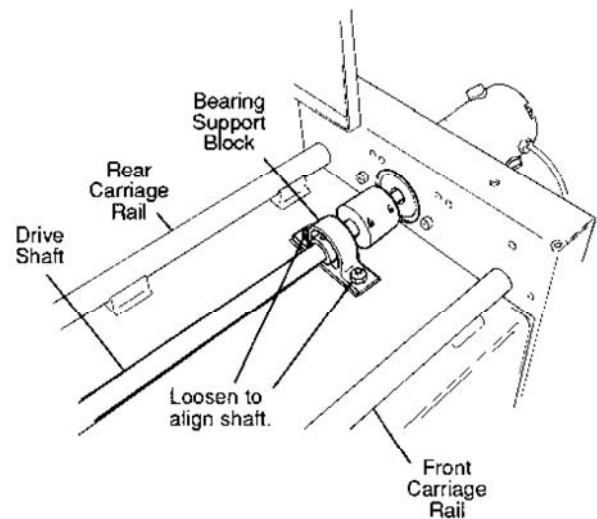

FIG. 40
1. Loosen the two bolts holding the bearing support blocks at each end of the drive shaft. FIG. 40.